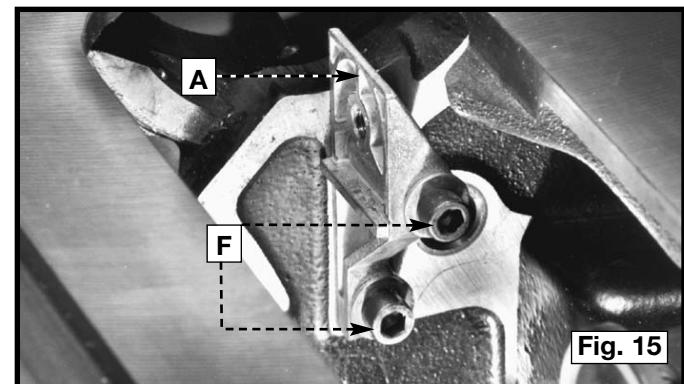

Fig. 15
4. To adjust, loosen the two screws (F) Fig. 15, and adjust splitter bracket (A) until it is aligned with the inside blade flange (B) Fig. 15. Tighten the two screws (F). Loosely install the screw and fastener plate (C), that were removed in **STEP 3**.